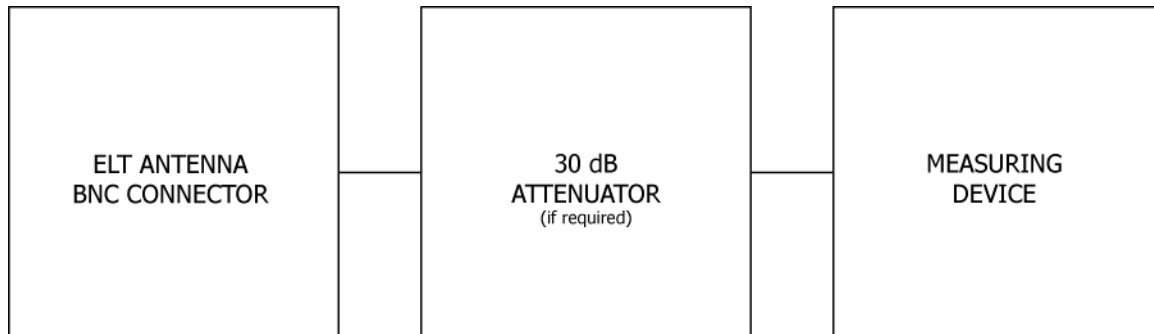

Figure 6 Performance Test Setup
- 3) For final airworthiness verification, use the ELT's own battery pack as the power source for these measurements. An alternate power source can be used where lengthy servicing, other than the performance tests, is anticipated. Expired battery packs can be used if the airworthiness performance of the battery pack in the system is not required. The battery packs are capable of at least fifty (50) hours (2 X shelf life) of operation at the end of six years of useful life.
- 4) To prevent damage to the measurement equipment from the 5W, 406 MHz burst, install an RF attenuator (rated 50 ohm) between the ELT antenna output and the measurement equipment. Typical attenuation is 30 dB, 50 ohm, and rated at 5 watts for 1/2-second duration (see Figure 6 Performance Test Setup).
- 1) Connect the measuring device as specified in Figure 6 Performance Test Setup.
- 1) Connect the measuring device, as specified in Figure 6 Performance Test Setup on page 27.